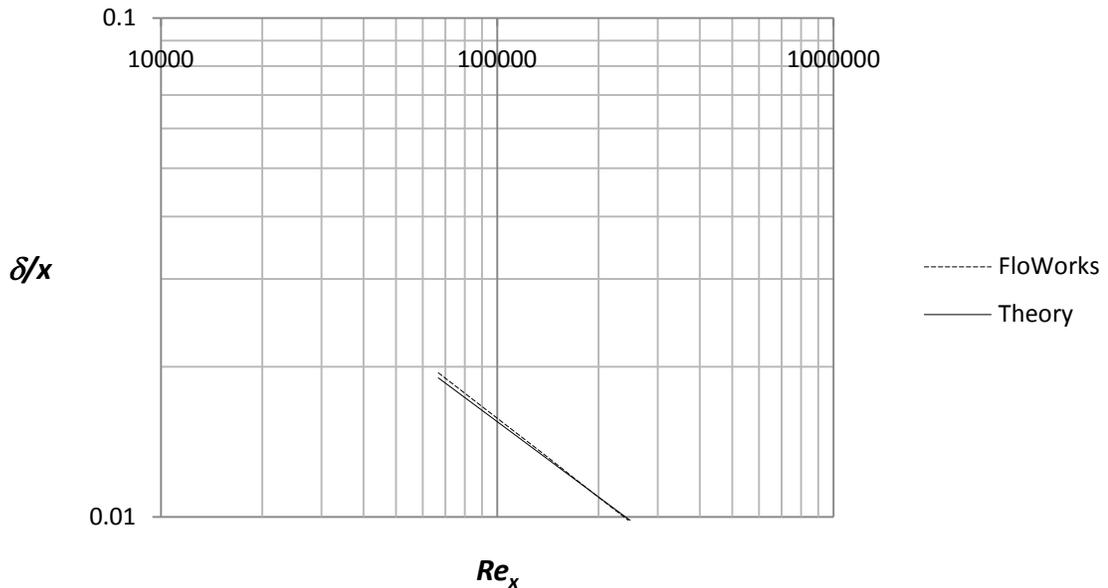

Figure 2.25b) Comparison between FloWorks and theory on boundary layer thickness
27. Place the file “xy-plot figure 2.25b)” into the **Local Disk (C:/SolidWorks/COSMOSFloWorks/FloWorks/lang/english/template/XY-Plots** folder to make it available in the **Template** list. Repeat step 24 and select the new template for the XY-plot as shown in figure 2.25b). Rename the xy-plot to **Boundary Layer Thickness**.